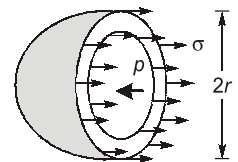

Figure 1.6 Soap Bubble
- (ii) **Pressure intensity inside a soap bubble :** A spherical soap bubble has two surfaces in contact with air, one inside and the other outside, each one of which contributes the same amount of tensile force due to surface tension (Figure 1.6). As such on a hemispherical section of a soap bubble of radius r , the tensile force due to surface tension is equal to $2\sigma(2\pi r)$. However, the pressure force acting on the hemispherical section of the soap bubble is same as in the case of a droplet and it is equal to $p(\pi r^2)$. Thus equating these two forces for equilibrium, we have